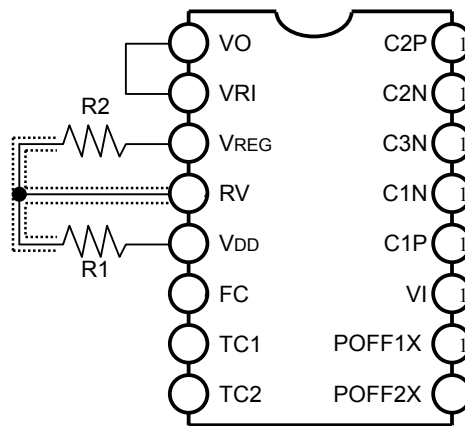

Fig.5.3 VREG setting method and assembly consideration
- The stabilizing potential adjusting pin “RV” has the too high input impedance, which may result in the regulator being destabilized due to noises. When using this pin, shield the wiring section between the split resistor and RV pin, or shorten the wiring as much as possible (see Fig.5.3).
- When using the stabilizing power supply voltage pin “VRI”, short-circuit the VRI and VO pins with a shorter cable (see Fig.5.3), exceeding at high-magnification boosting using an external diode shown in Section 9.8.